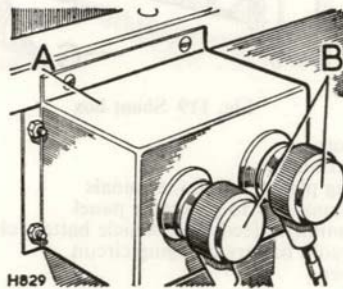

Fig. 120 Insulated terminals
337. A pair of insulated terminals (Fig. 120) are mounted on a bracket attached to the front of the rear body adjacent to the radio table. These terminals provide a safe stowage for the ends of the battery/terminal box leads when disconnected from the battery.
- (6) Release the two spring-loaded fasteners from the hooks on the front of the battery cover.
- (7) Carefully withdraw the cover rearwards from the batteries.
- (8) Slacken the wing nuts securing the slotted battery inter-connector and remove the connector. Do not remove the battery post connectors. If two sets of batteries are fitted, disconnect the second set similarly.
- (9) Similarly release the remaining two battery connections, double back the leads and secure the spade terminals to the insulated terminals (Fig. 120 (B)) on the rear of the bulk-head. Locate the double-back section of the leads in the stowage cleat (Fig. 109 (10)) situated below the insulated terminals.
- (10) Release the batteries secured by the swivel type clamps, and lift them from the carrier.
- (11) Release the battery carrier secured by ten countersunk bolts with nuts and spring washers.
- (12) Release the two spring-loaded fasteners used to secure the battery cover. Two bolts with spring washers secure each fastener; captive nuts are provided beneath the floor.
- (13) Unscrew the four nuts and bolts securing each aerial mounting bracket (left-hand bracket for one HF set installation) and remove the bracket complete with mounting. Alternatively first remove the mounting from the bracket by unscrewing the captive screw at the bottom of the mounting and then withdrawing the mounting; use a tommy bar to turn the screw.
- (14) Only if required, release the slotted angle framework. Six bolts with plain washers screwed into captive nuts secure the assembly.
- (15) Release the seat strap/s from the stud/s on the wheel arches and lift the seat/s from the vehicle.
- (16) Release the small table, if fitted, secured by four nuts and spring washers.
- (17) Release the three top hat sections, if fitted, from each wheel arch; each section is secured by two bolts with nuts and spring washers and distance pieces.
- (18) Re-route and stow the ATU co-axial connectors in the reverse sequence to that indicated at para. 323.